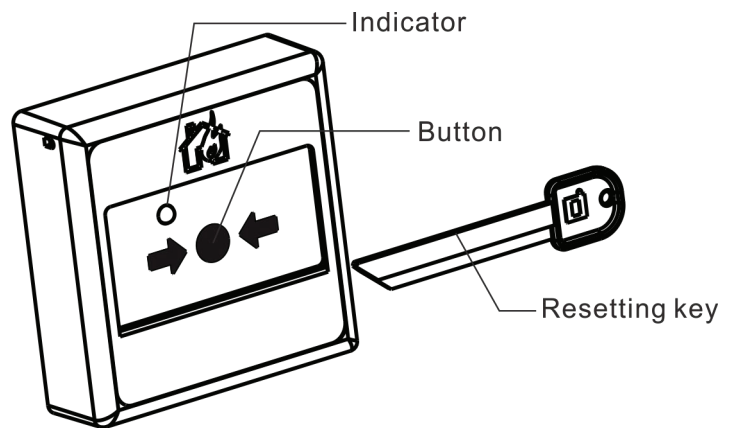

Figure 5. Use
**Start:** When there is a fire manual confirmation, press the button on the panel of the BP-FD-CMCP135 (See Fig.5). After the manual fire alarm is given, the ALARM indicator will remain lit.